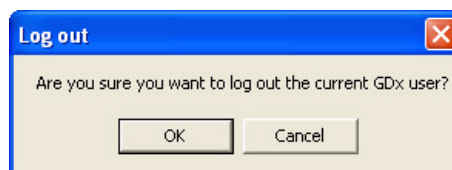

Figure 2-2 Log Out Dialog
2. A dialog will be displayed to confirm your intention (Figure 2-2).